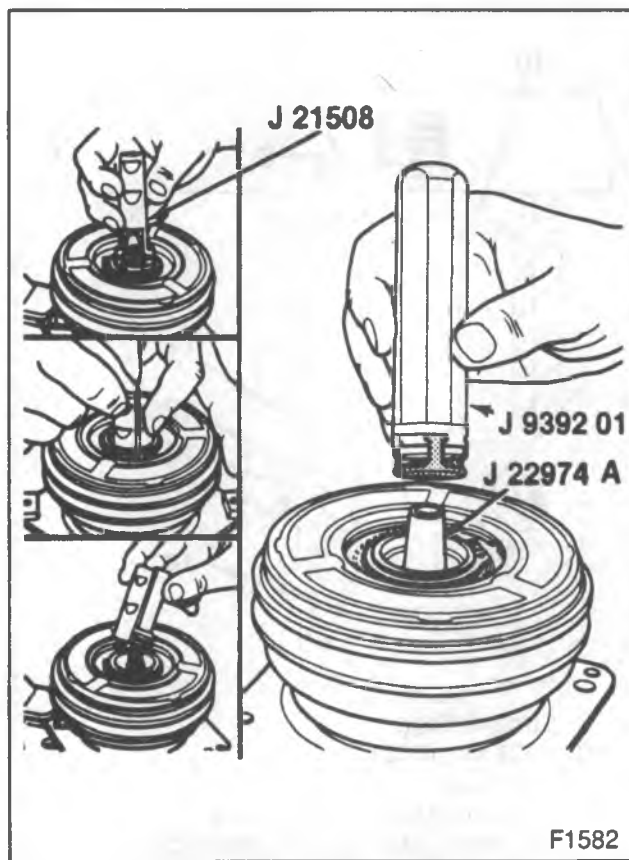
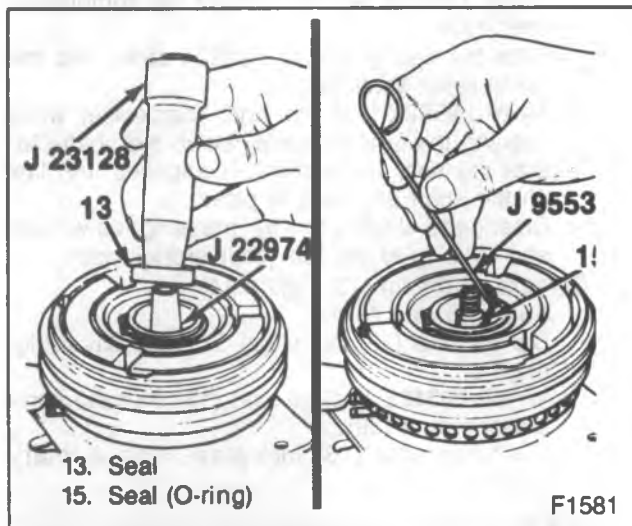

Figure 15—Removing/Installing the Shaft Seal and Seal
Figure 14—Removing/Installing the Shaft Seal Seat and Seal
5. Shaft seat (13) (figure 14).
- Lift the seat (13) from the compressor with a rotary motion.
6. Shaft seal (14) (figure 15).
- Place J 22974-A over the end of the shaft (38) to prevent cutting the O-ring (13).
- Insert J 9392-01 over the compressor shaft (39).
- Engage the tabs on the seal (14) by twisting the J9392-01 to the right.
- Engage the tabs and lift the seal (14) out of the shaft (39) cavity. Hold J 22974 in place while removing the seal.
7. O-ring (15) with J 9553-01.
1. O-ring (15) with J 33011 (figure 15).
- Dip the seal (15) into clean 525 viscosity refrigerant oil.
- Rotate J 33011 to seat the seal (15).
2. Seal seat (14) (figure 15).
- Coat the seal (14) with clean 525 viscosity refrigerant oil.
- Mount the seal (14) to J 9392-01 by engaging the tabs of the seal with the tangs of J 9392-01.
- Place J 22974 over the end of the compressor shaft (39).
- Slide the seal (14) and J 22974 down onto the compressor shaft (38).
- Twist J 9392-01 to the right (clockwise) while pushing the seal assembly down the shaft (38) until the seal assembly (14) engages the flats on the shaft and seat in place.
3. Ceramic seal seat (13) (figure 14).
- Seal (13) to J 23128.
- Dip the seal (13) into clean 525 viscosity refrigerant oil.
- Install J 23128 and the seal (13) over the compressor shaft (39).
- Push the seal (13) into place with a rotary motion.